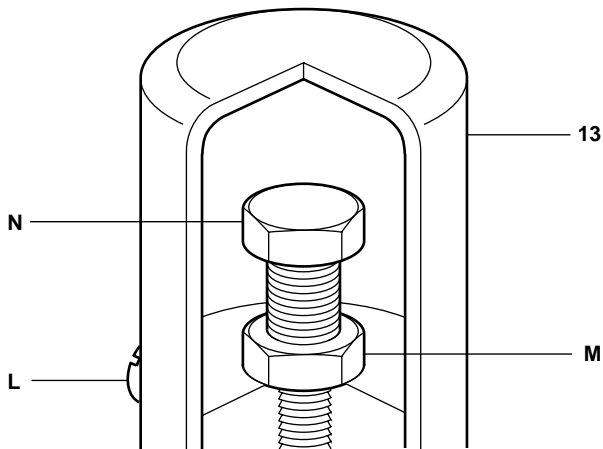

Fig. 5
- Remove the adjustment head cover (13, Figure 5) by undoing the two screws (L) and slacken the lock-nut (M).
**Note:** If the required operating temperature is above 60°C (140°F) turn the setting screw (N) seven full turns in an anticlockwise direction before proceeding.
- Slowly turn the setting screw (N) in a clockwise direction until the HL10 is fired off.
- The setting screw (N) should then be turned in an anticlockwise direction one or two turns (1 turn = 6°C (10.8°F)) to give a margin between the normal operating temperature and the temperature at which the safeguard high limit control will come into operation.
**Note:** do not forget to refit the adjustment head by securing the 2 x screws (L).